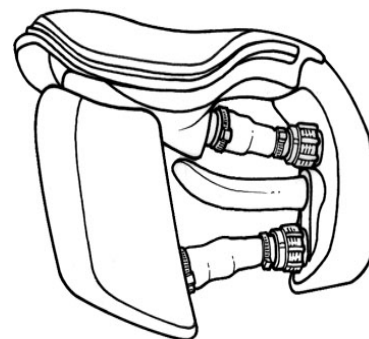

Fig. 4
1. Screw both valves onto genitalia. When attaching valves, be sure alignment of genitalia, urinary reservoir (belly plate) and colon reservoir are as illustrated in Figure 4.